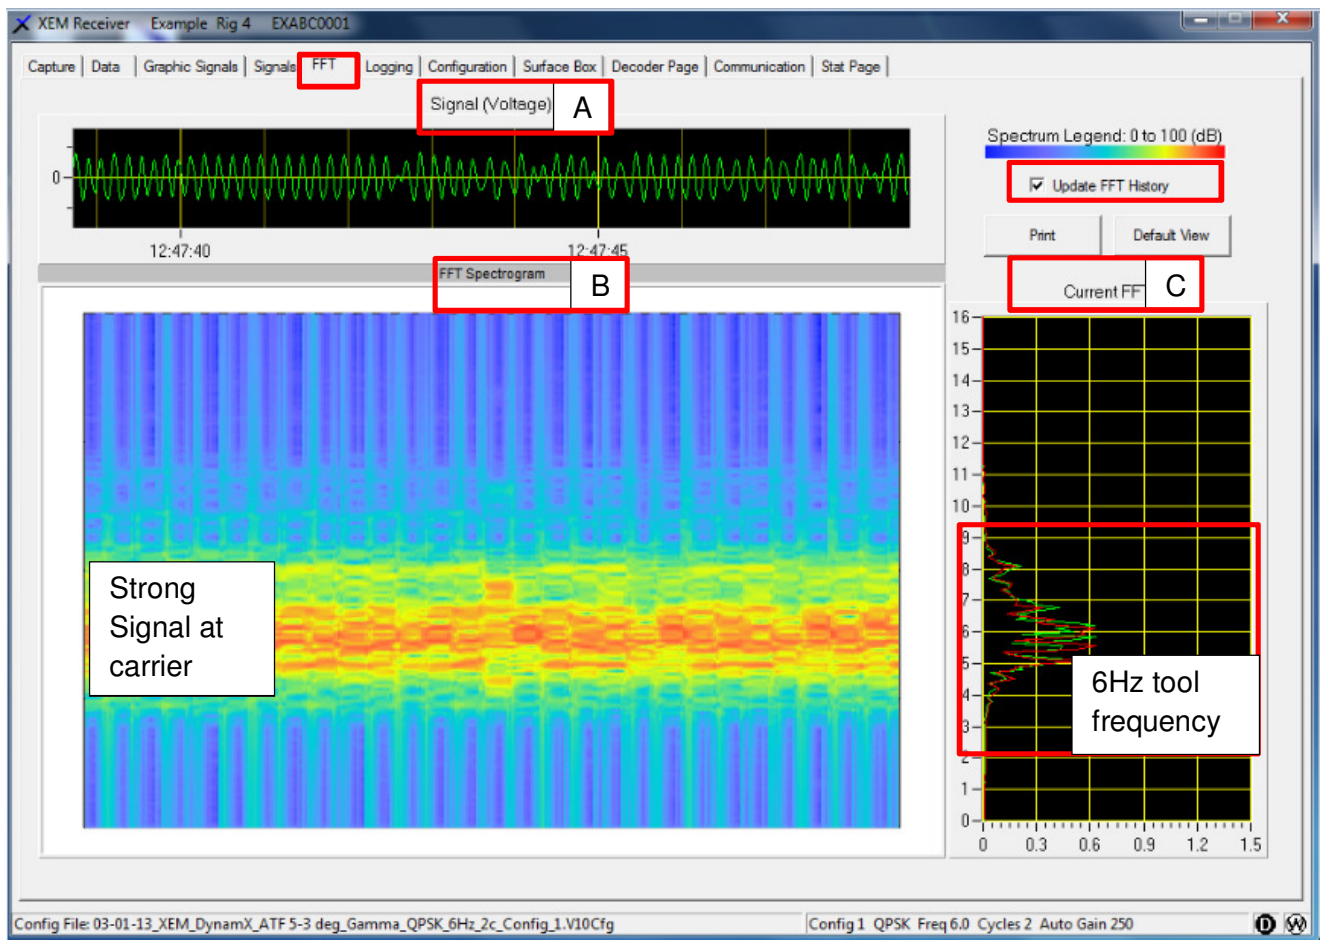

Figure 72 FFT showing a relatively clean signal
2. Current FFT showing the current Tool Signal Amplitude over a Range of frequency. The center frequency is at 6Hz in Figure 72.